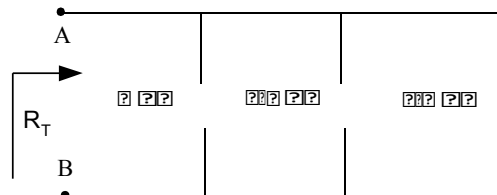

Figure: 2.6
2. Construct the circuit as shown in Fig 2.6.